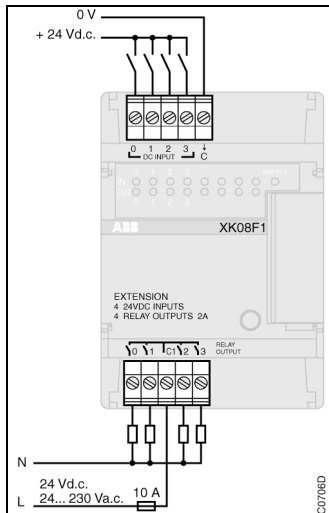

Figure 4-21 : Extension XK 08 F1
3.5. Extension XK 08 F1 (see Figure 4-21)